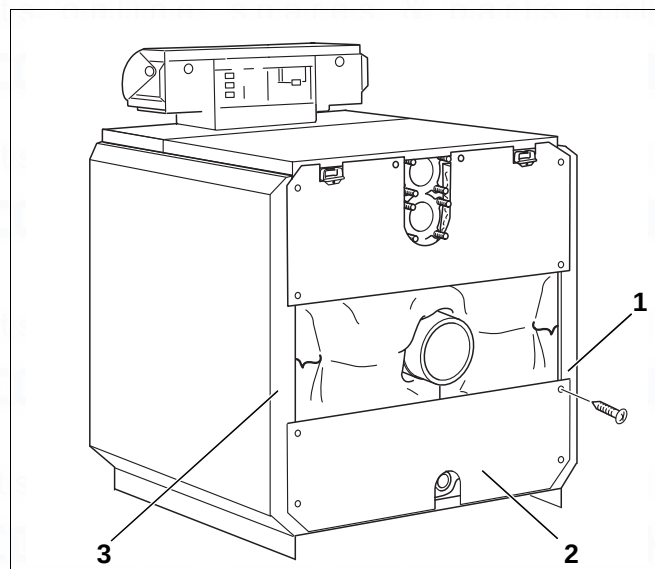

Fig. 40 Installation – lower boiler rear panel
- Screw the lower boiler rear panel (Fig. 40, [2]) with the cut-out for the fill and drain connection down onto the side panels (Fig. 40, [1] and [3]).